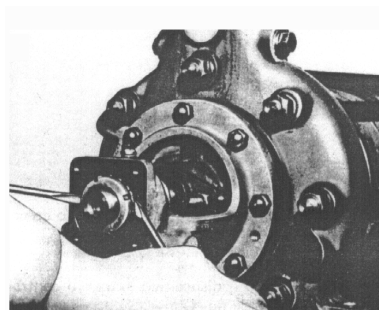

Fig. 4
- With the Taper Sleeve Lock released, extract the Bearing's Bushing Fixture, Locking Plate, and Taper Sleeve Lock, using two screwdrivers leaning on the bearing's blocks face. (See fig. 4)